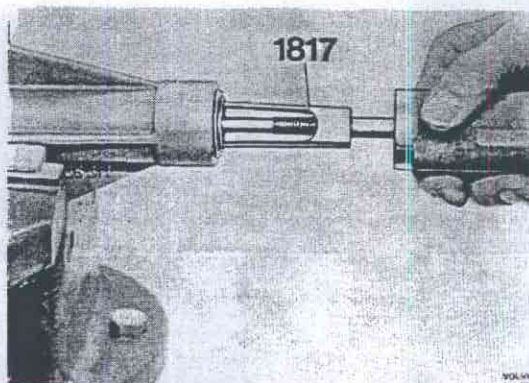

Fig. 43-76. Gear selector housing
1. Fit the housing in a vice. Pull out the seal, bushing and seals, Fig. 43-75 with 1817, Fig. 43-76.